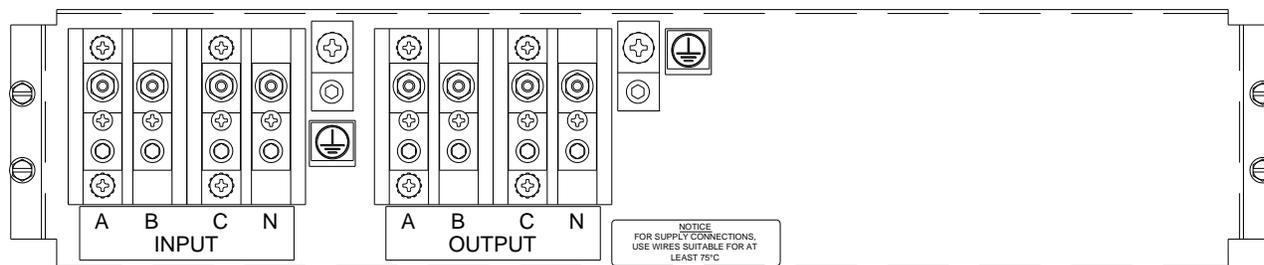

Figure 7 - Terminal Blocks
2. Connect the input wires to the proper terminals shown in Figure 7. Insure proper phase rotation. Input neutral is not required if the UPS is equipped with an optional input isolation transformer.
3. Connect the output wires to the proper terminals shown in Figure 7.